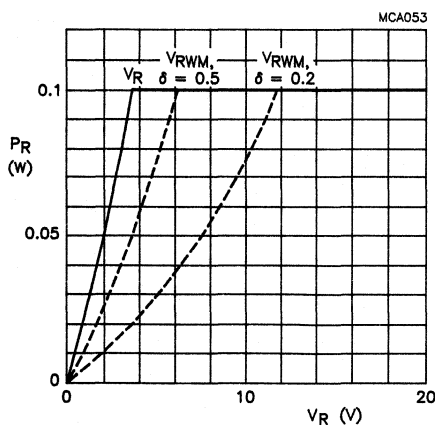

Fig.8 PRLL5817. Reverse power dissipation as a function of reverse voltage (max. values); device mounted as shown in Fig.2.
- Determine the reverse power losses P_R from Figs 8, 10 or 12 and multiply P_R by 150 K/W, giving a certain number of degrees centigrade (this being the increase of junction temperature caused by reverse power dissipation).